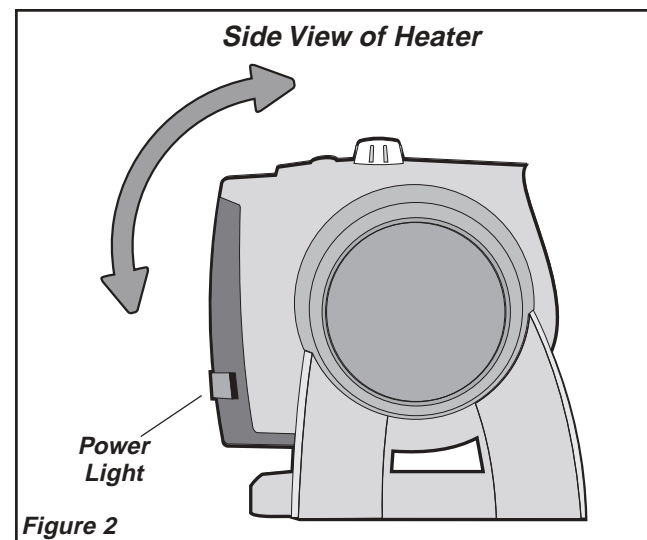

Figure 2
7. Move the **Power Knob** to the desired heat setting. High Heat (1500W) is represented by the (2) and Low Heat (900W) by the (1).
9. To adjust the angle of the Heater air flow, rotate the Heater body forward or backward to the desired position. (Figure 2)
11. To disconnect Heater, turn **Power Knob** to the “OFF” position (0), then remove plug from outlet.